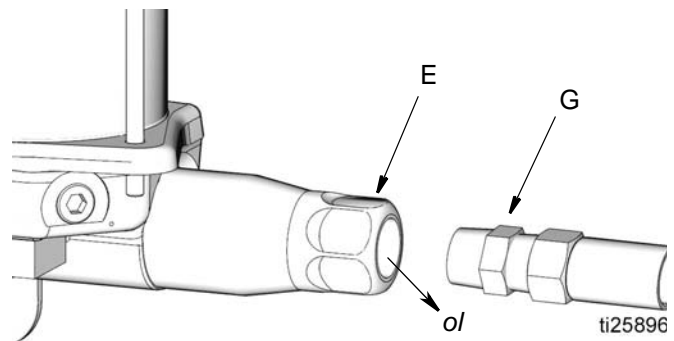

FIG. 7
3. Disconnect the lubricant supply line (G) from the pump outlet (E) (FIG. 7).
5. Run the pump a few strokes until oil (o), free of air, comes out of the pump outlet (E) (FIG. 7).